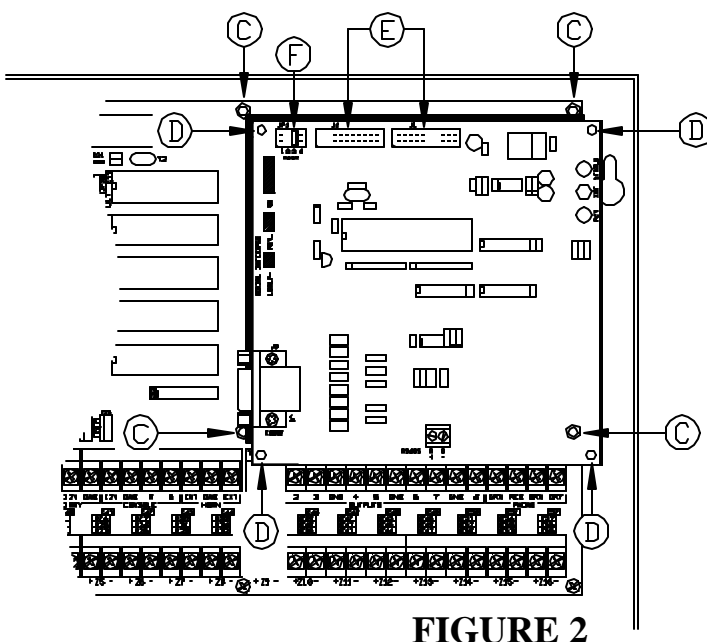

FIGURE 2
4. Install the 4 supplied 6/32 x 3/4 male/female Hex spacers in holes where screws were removed, marked "C" in Figure 2.
5. Place 10A17 on top of the controller. Line up mounting holes marked "D" with Hex spacers marked "C" in Figure 2.
6. Reinstall 4 6/32 x 1/4 Phillips screws through mounting holes "D" in 10A17 Serial Interface into Hex spacers "C" on controller as shown in Figure 2.
7. Connect opposite end of supplied cable to the connector (J1 or J2) directly above on the 10A17 marked "E" in Figure 2.